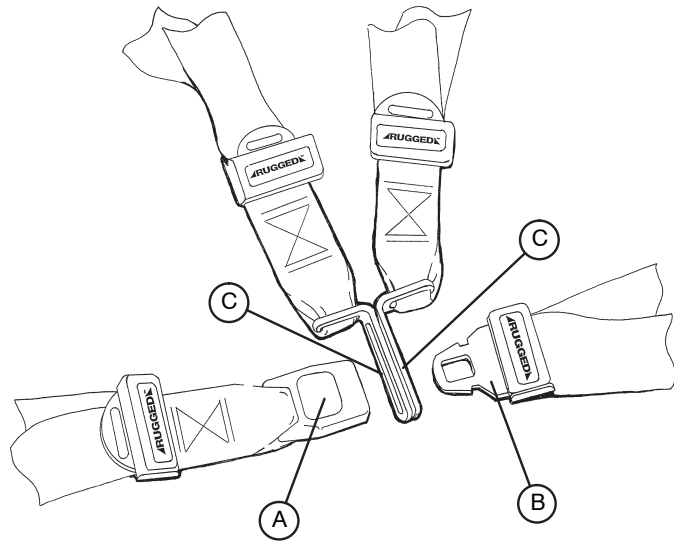

Figure 9 - Buckling the Safety Restraints
- Press the red button (A) on the front of the buckle "receiver". This releases the buckle tang (B) which can then be pulled out of the receiver as shown in Figure 9.
- Push the tang into the receiver until a "click" is heard. When fastening the chest restraint, be sure the tang passes through both links (C) on the shoulder strap as shown in Figure 9.